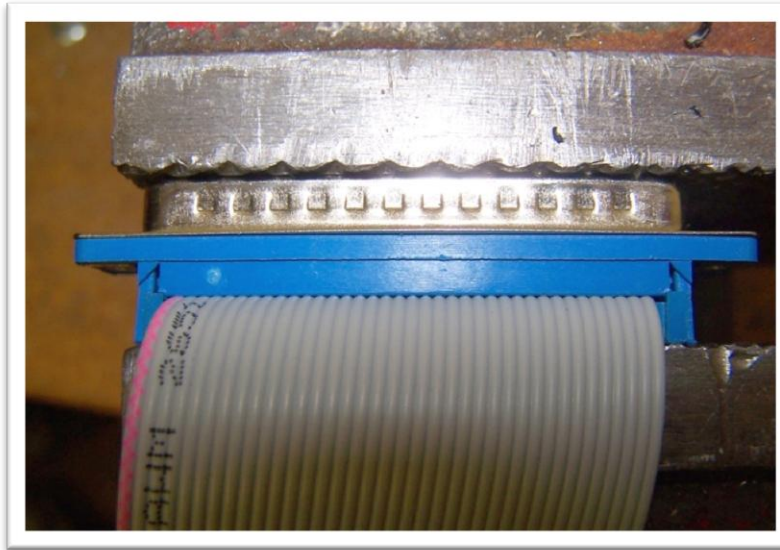

Figure 11: The side retainers have clipped on to the connector backing.
- 5) Gently close the vice to press the backing onto the connector until the side retainers clip back on, Figure 11. There is no need to press the connector any further than the point at which the side retainers engage, and you will risk damaging the connector.